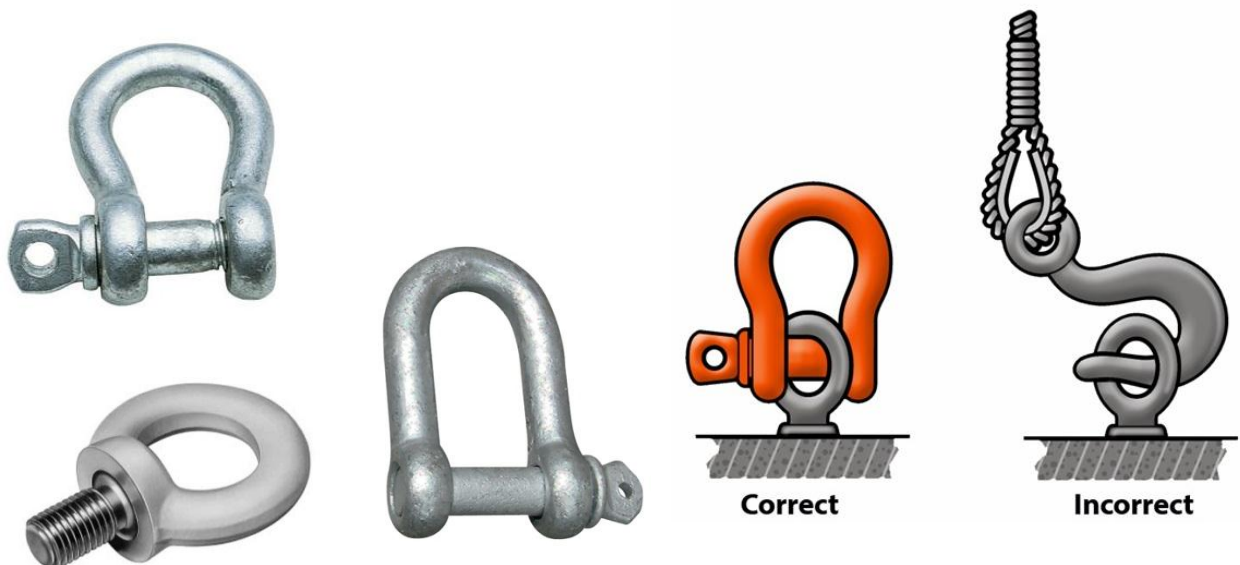

FIG 6.
- A shackle is used to join slings together and should, whenever possible, when applied for lifting, be used in conjunction with an eye-bolt. (Fig 6)
- The safe working load of a shackle is normally stamped on its side (Fig. 6).